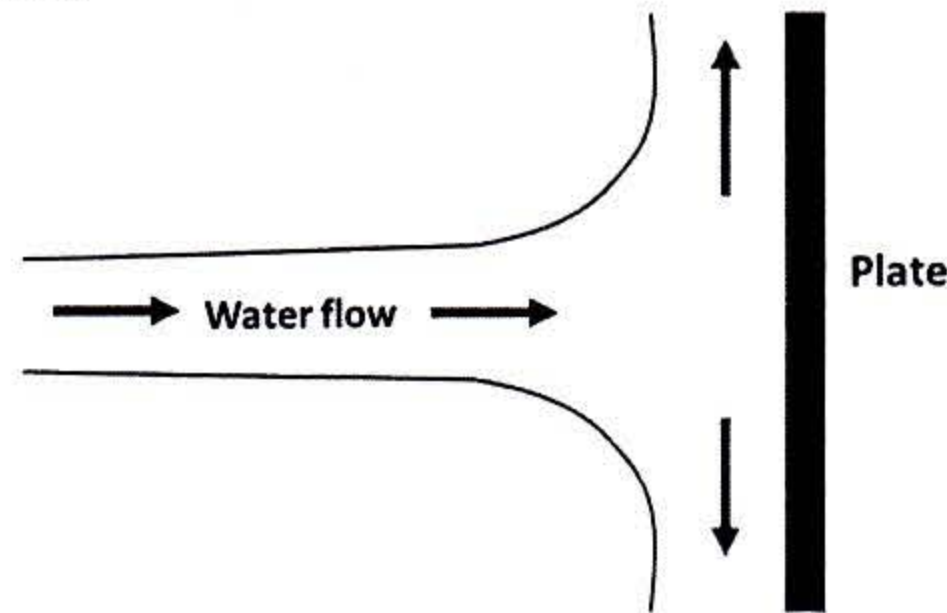

Figure: 02
4. (a) Derive the expression for the normal force. When a jet of water strikes stationary plate as shown in Figure:02. [4]